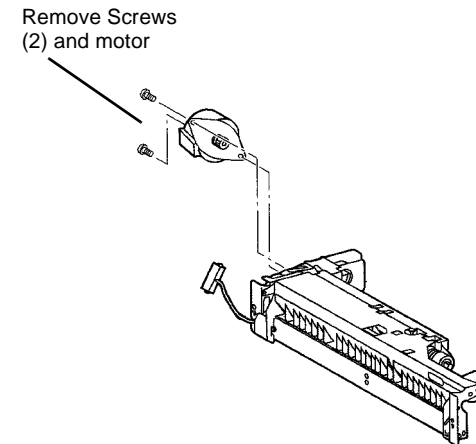

Figure 1 Removing Tray 1 Feed Motor
4. Remove Tray 1 Feed Motor (Figure 1).